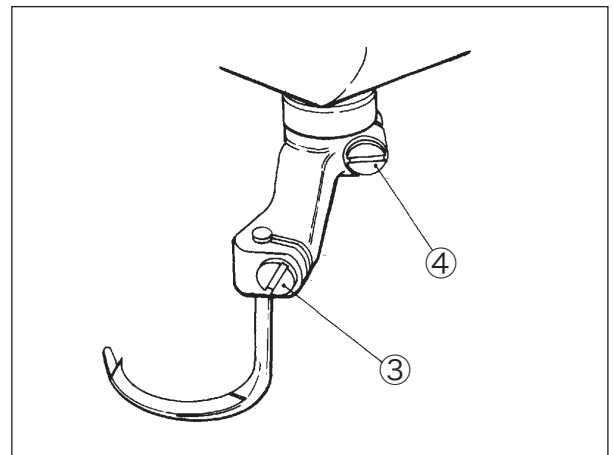

Fig. 6-12
- (1) Loosen the screw ③ of the spreader and the screw ④ of the spreader holder. (Fig. 6-12)